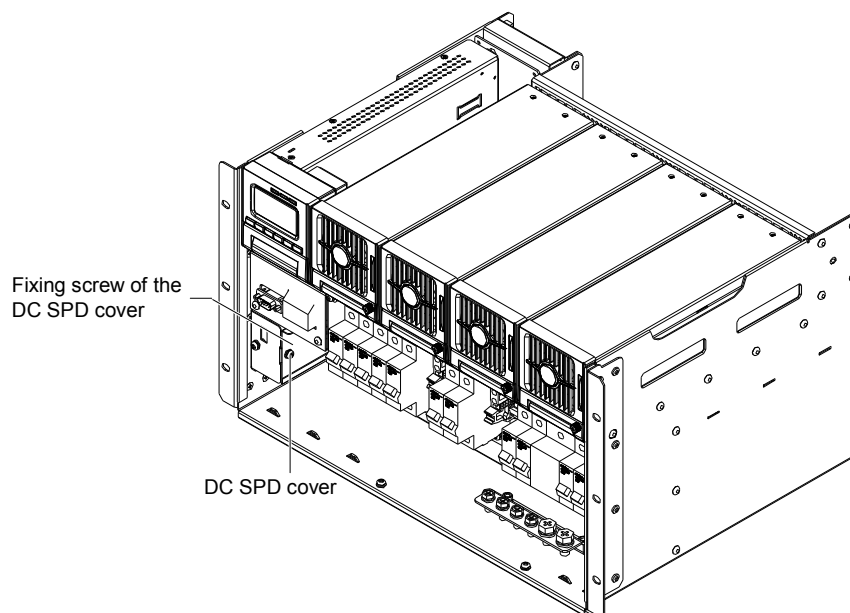

Figure 5-13 Removing the DC SPD cover
Step 2: Remove the one screw and the DC SPD cover, as shown in Figure 5-13.